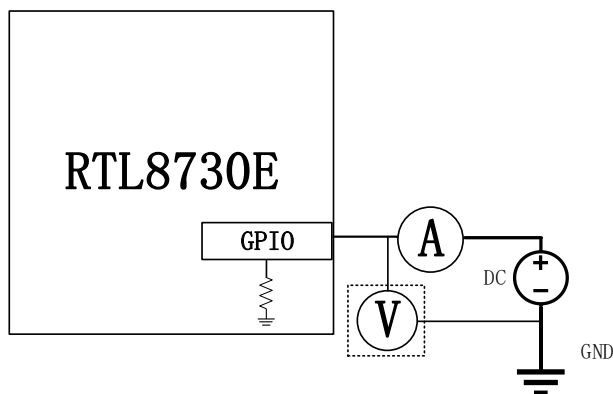

Figure 6-3 GPIO pull down resistor test
- (1) Configure the GPIO to be tested as input mode.
- (2) Configure the GPIO registers to be tested as 0 for `gpio@_pu` and 1 for `gpio@_pd`.
- (3) For GPIOs with multiple pull-down resistance values, it is necessary to change the configuration of the register `gpio@_pupdc` and test them separately.
- (4) When the ammeter is not connected, measure the voltage of the GPIO pin to be tested, and the voltage value is 0V.
- (5) According to Figure 6-3, Use an external power supply to provide the same voltage (V_2) as the GPIO IO power, and measure the current (I_2) at this time, and the pull-up resistor is $R_{pd} = V_2 / I_2$.